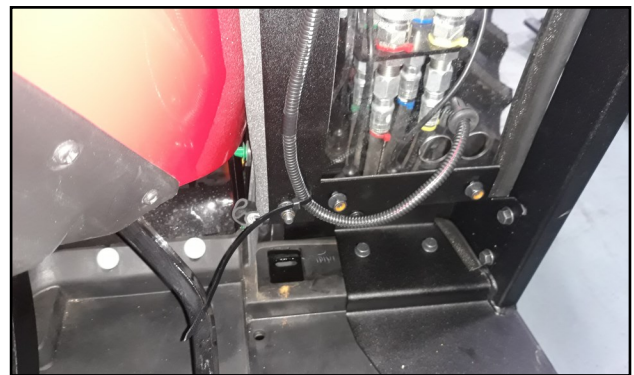

Fig. 11.4 (Bottom shown, top similar)
- 11.4 Run the wire harness down along the right side trim ring, fastening with the (3) factory installed wire ties and through the 11/16" hole in the right side cowl window. See Figure 11.4.